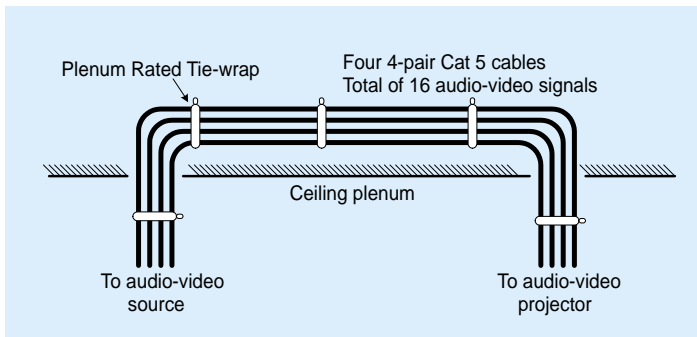

Figure 4: Cat 5 Cabling Harness in Ceiling Carrying Audio-Video and VGA Signals
The Category 5 twisted pair cables connecting the projector to the audio-video input equipment are neatly tie-wrapped and concealed in the ceiling plenum. (See Figure 4) In this application there are only four Category 5 cables used. Together they carry sixteen (16) audio video signals and would replace up to sixteen (16) coaxial cables if each signal had its own cable.